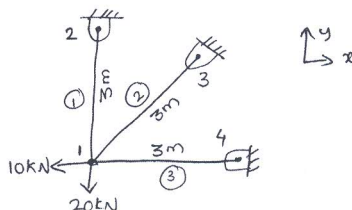

Fig.Q4(b)
b. For the plane truss shown in Fig.Q4(b), determine the horizontal and vertical displacements at the nodes and stresses in each element. All the elements have $E = 201\text{GPa}$, $A = 4 \times 10^4\text{m}^2$.